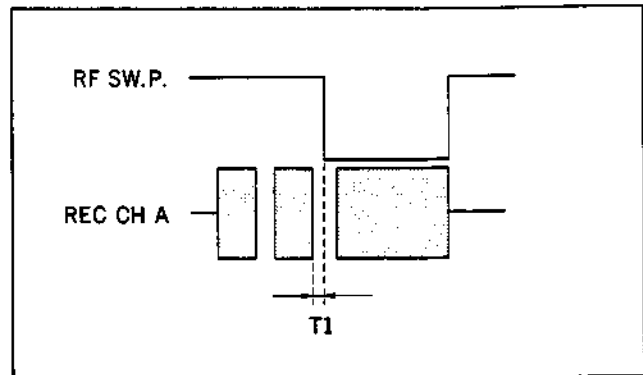

Fig. 6-10-2 Switching position check (REC A) ②
4. Use the REC head PB harness in the same condition as section 6-9, item 1.
6. Check the error T1 of the wave shape indicated in the figure to satisfy specifications 1. (See Fig. 6-10-2)
1. If specifications 1 is not satisfied in the check of section 6-10-1, perform the adjustment following. (See Fig. 6-10-2.)